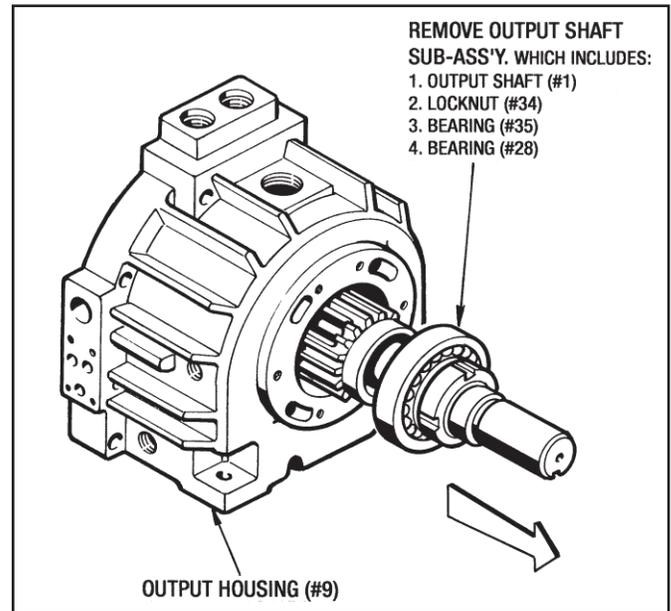

Figure 7.4 - Removing Output Shaft
6. With a mallet, tap the Output Shaft out of the Output Housing as shown in Figure 7.4.